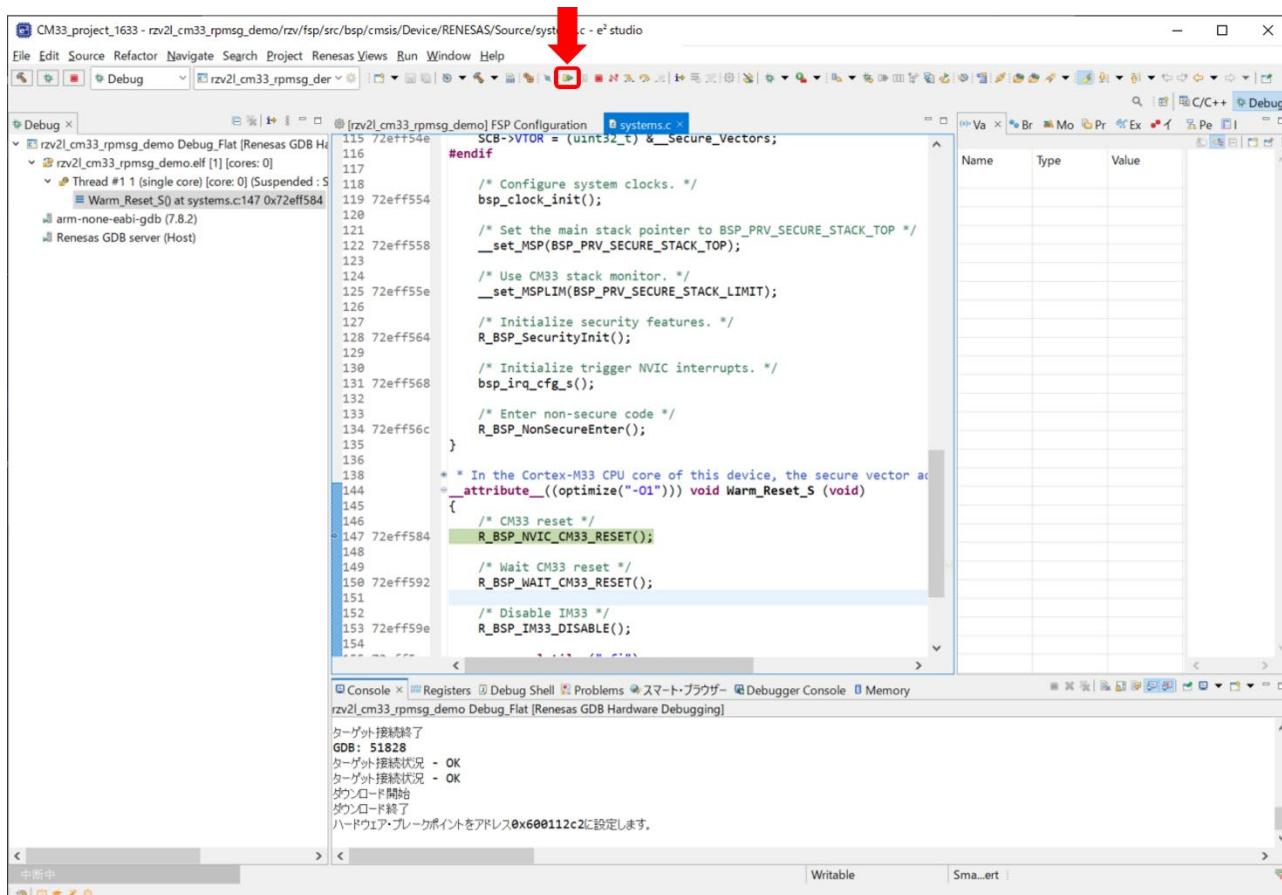

Figure 4-7. How to start to debug sample program (1)
3. When the debug perspective is opened, Program Counter (PC) should be located at the top of Warm\_Reset\_S function. Then, you need to press the button indicated by a red arrow in Figure 4-7.